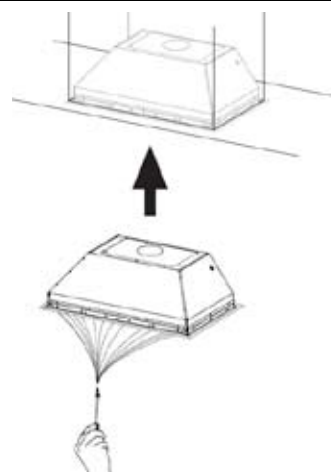

FIGURE 12
5. Attach the hood to the cabinet using (12) 9c. screws to the cabinet. FIGURE 12